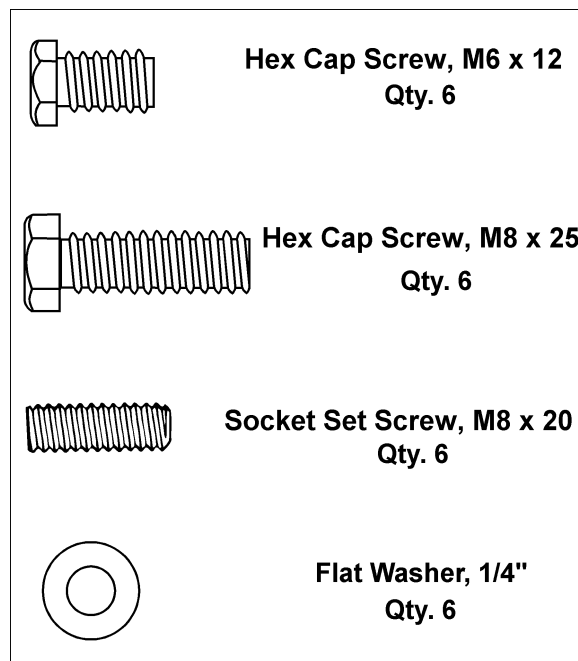

Figure 3
- (*Contents of hardware bags are drawn full scale in Figure 3.)